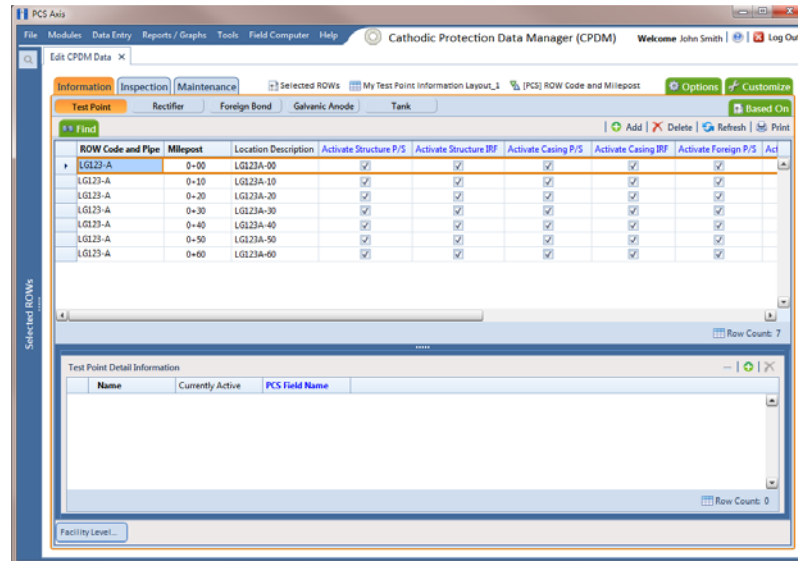

Figure 7-97. Test Point Detail Information
- 4 If the *Test Point Detail Information* mini-grid is not visible, double-click the **Test Point Det...** button  to open the mini-grid (Figure 7-97, page 314).